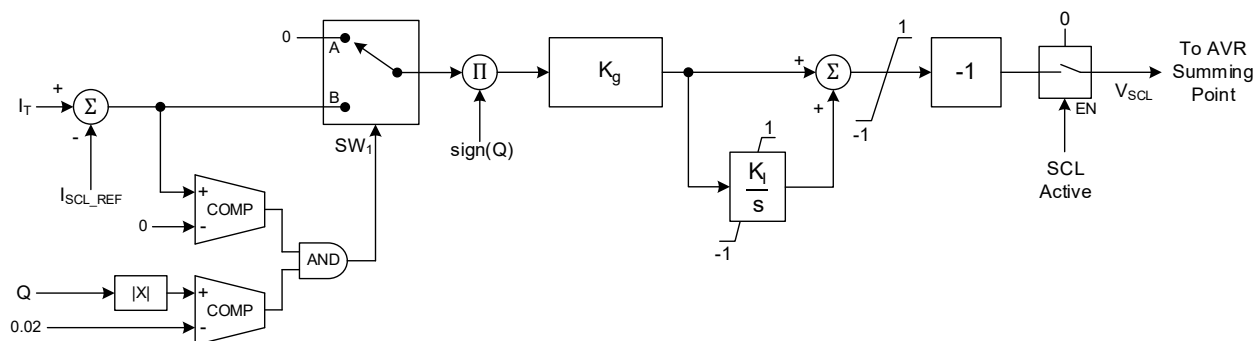

Figure 33-17. Per-Unit Stator Current Limiter Block Diagram
The stator current limiter (SCL) modifies the excitation level based on whether vars are being absorbed (leading) or exported (lagging) by the synchronous machine. Figure 33-17 shows the model of the stator current limiter. The SCL makes up the outer loop, and the voltage regulator makes up the inner loop. The PI-type controller is used to achieve a desired response. The sign (Q) is defined as positive (+1) for overexcitation and negative (−1) for underexcitation condition. This limiter may be modelled as a type SCL1C model.